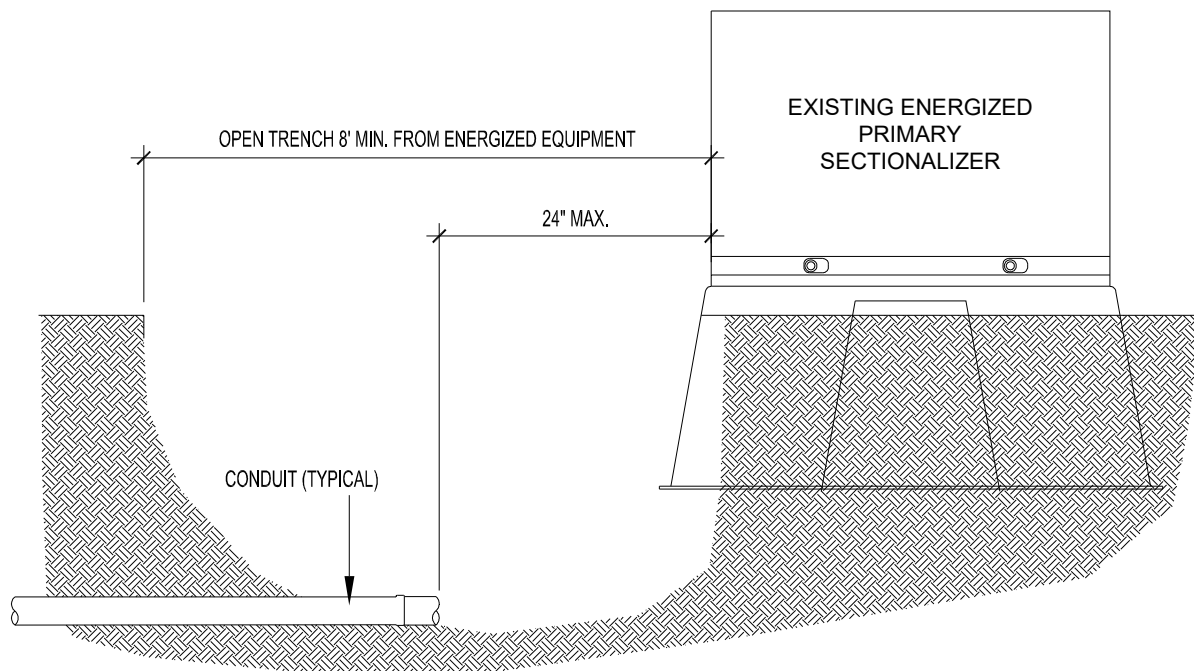

Figure 6.1.1 Connecting to a Sectionalizer
- 5.4.1 Call after trench has been extended to base of power equipment, and conduit has been installed and left 2' short of power equipment (see figures 6.1.1, 6.1.2, and 6.1.3). Leave trench open 8'-10' from equipment, provide fiberglass elbows and contact Provo City Power for assistance on installation. Call Power Dispatch: (801)852-6999